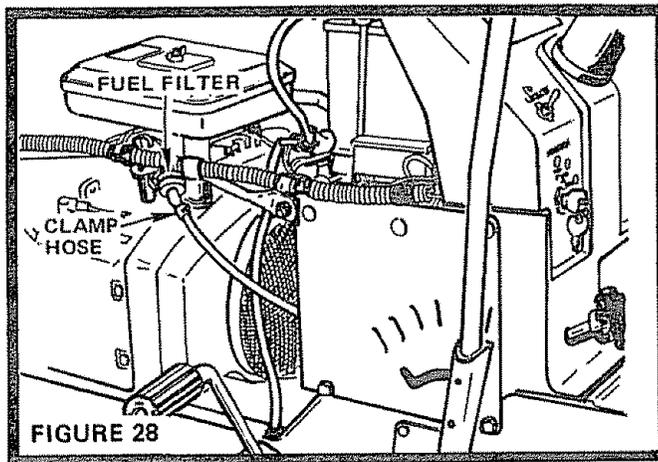

FIGURE 28
- a. With Engine cool, remove and plug Fuel Line Sections as removed from both ends of Fuel Filter (Fig. 28).